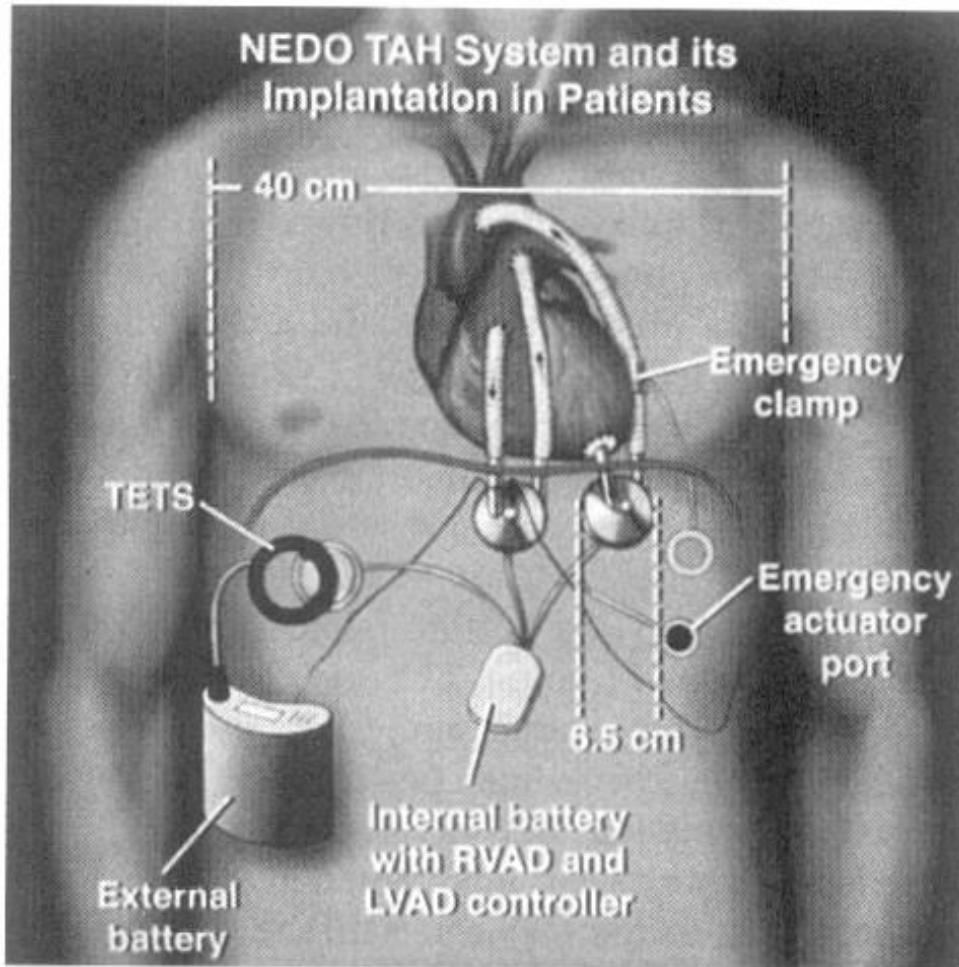

FIG. 4. Totally implantable NEDO BVAD system is shown.
FIG. 4. Shown are velocity vectors in the radial blade (A); velocity vectors in Design 1 (B); velocity vectors in Design 2 (C); velocity vectors in Design 3 (D); and velocity vectors in Design 4 (E).